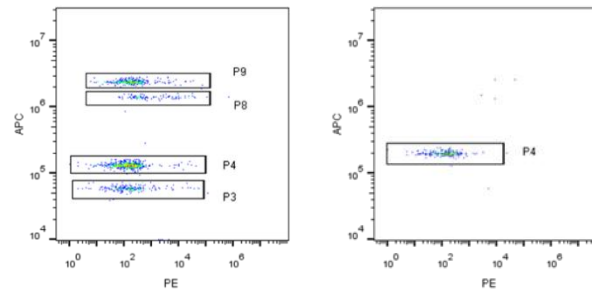

Figure 2
5) Apply proper PE/PE-Cy7 and PE/PE-Cy5 color compensation so that the bead populations are in a horizontal position (Figure 2).